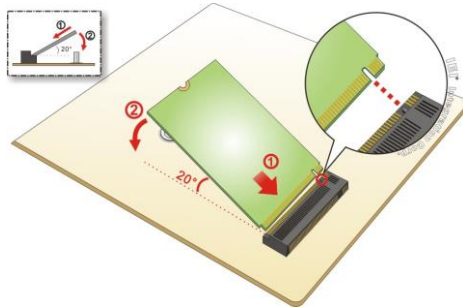

Figure 3-5: Inserting the M.2 Module
Step 3: Line up the notch on the module with the notch on the slot. Slide the M.2 module into the socket at an angle of about 20° (Figure 3-5).